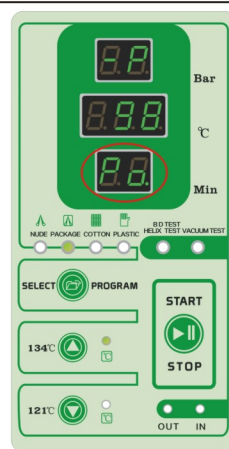

Fig. 7.4-5
(5)**Second times Pre-vacuum stage:**when the pressure down to 0.0bar,the control system will open the vacuum pump solenoid valve(Ev4).the time display window show “Po” , the “pressure display window” show “-P”,the “temperature display window” show “temperature in chamber” . (Fig.7.4-5)
(8)**third times Pre-vacuum stage:**when the pressure down to 0.0bar,the control system will open the vacuum pump solenoid valve(Ev4).the time display window show “Po” , the “pressure display window” show “-P”,the “temperature display window” show “temperature in chamber” . (Fig.7.4-5)